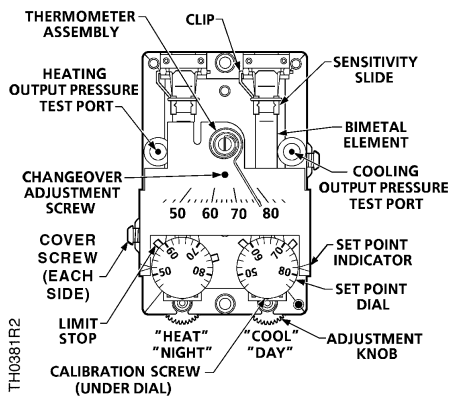

Figure 4. TH193 HC Thermostat Details.
- Place a screwdriver in the center of the thermometer assembly (Figure 4). Carefully rotate the thermometer assembly until the pointer tip indicates the correct room temperature.
To change the limit stop settings, use a needle nose pliers to pull limit stop (Figure 4) between the set point cam gear teeth. Do not pull the limit stop any more than necessary to clear the gear teeth. Rotate the limit stop to its new position. Changing the limit stop position one gear tooth changes the limit stop setting by 1-1/3°F (0.7°C).
The factory thermostat sensitivity setting is approximately 2.5 psi/°F (31 kPa/°C). To change the sensitivity, use a flat-blade screwdriver to carefully move the sensitivity slide (Figure 4) to the desired position as follows:
4. Check the control pressure. If it does not read 7 to 8 psi (48 to 55 kPa), turn the calibration screw (Figure 4) using the calibration tool or a 1/8-inch (3.2 mm) wrench until the pressure is 7 to 8 psi (48 to 55 kPa). The sensing element is now in calibration and the set point can be changed to the desired room temperature.